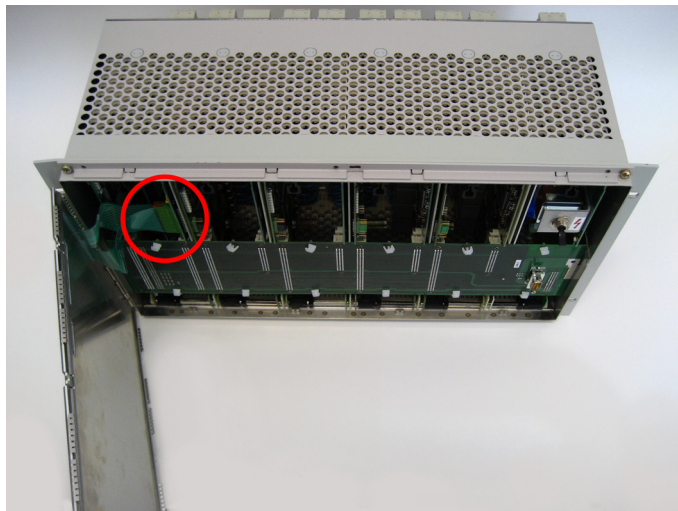

Figure 3-5 Connecting the ribbon cable
- ❑ Carefully pull the plug connectors of the two ribbon cables out of the CPU board and set the front plate aside (see Figure 3-5).